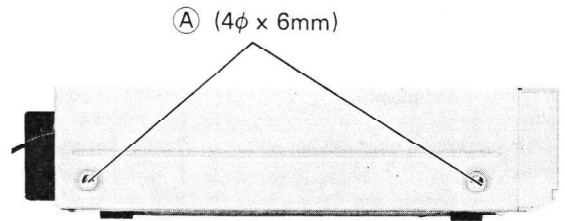

Figure 1
1. Remove four screws (A) ($4\phi \times 6\text{mm}$) and two screws (B) ($3\phi \times 6\text{mm}$), and the top cabinet can be removed from unit. (Figure 1, 2 and 3)